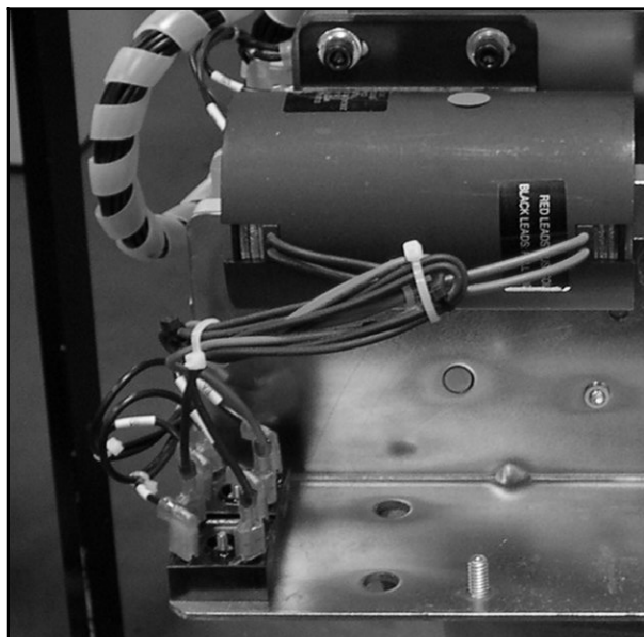

Figure 7-20 Rectifier Fast-On Connectors (contactor shown on the bench)
4. Remove the DC fast-on connections from the rectifier terminals. See Figure 7-20.